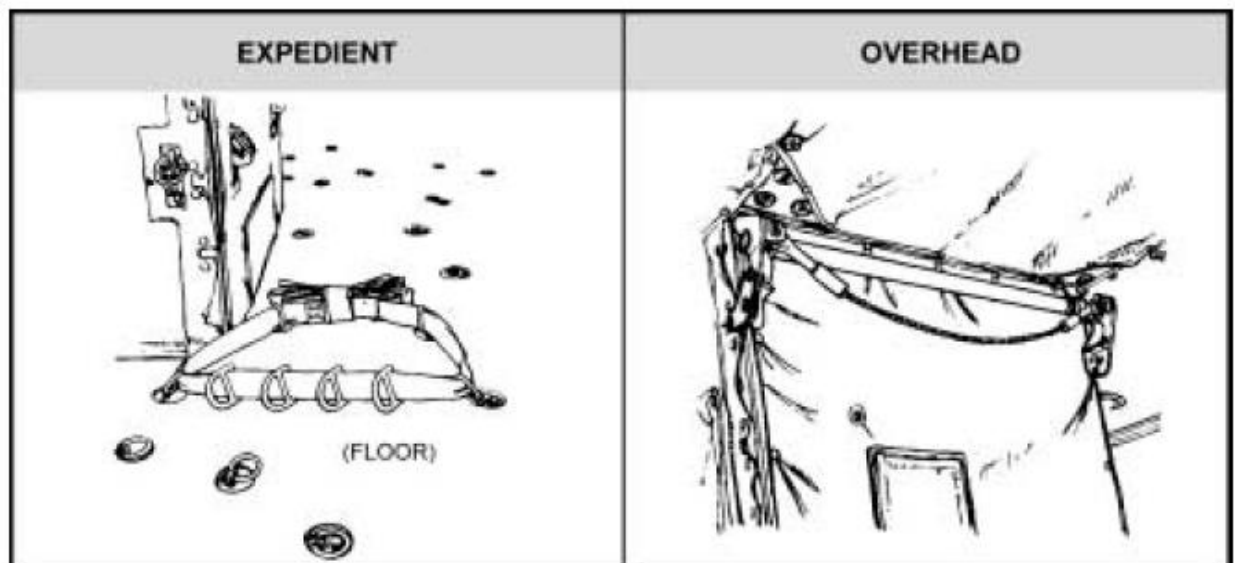

Figure 2. UH-1 anchor line system.
- b. Anchor Line Systems. Two anchor line systems are available with the UH-1H aircraft for airdrop of personnel. They are the standard overhead system and the expedient system (Figure 2). The expedient system (A-7A anchor line cable assembly) consists of a cotton A-7A strap, four D-rings, and four connector snaps (TM 10-1670-298-20&P authorized the fabrication of the A-7A strap from Type X cotton webbing). Nylon A-7A straps may be used with cotton buffers on the D-rings and connector snaps.